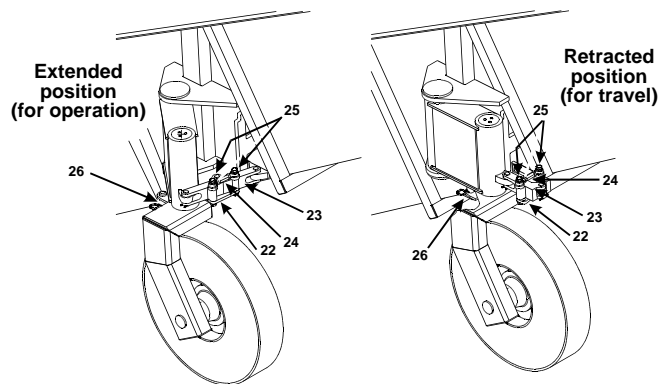

Figure 35
- Remove capscrews from red locking plate (22) on the locking linkage (23) Figure 35.
- Loosen jam nuts (25) on turnbuckle (24) figure 35. Loosen turnbuckle and remove outboard capscrew in turnbuckle.
- Repeat this procedure for other side. Make certain to leave rear caster locking pins (26) engaged (Figure 35).